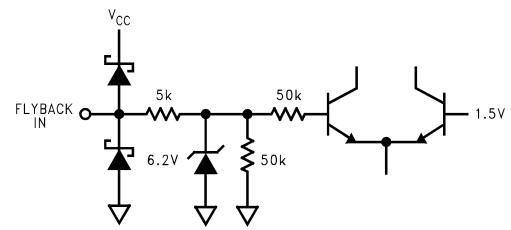

FIGURE 12.
**Pin 18—FLYBACK IN:** Input pin for phase detector 2. For best operation, the flyback peak should be at least 5V but not greater than  $V_{CC}$ . Any pulse width greater than 1.5  $\mu\text{s}$  is acceptable. See *Figure 12* for the input schematic.